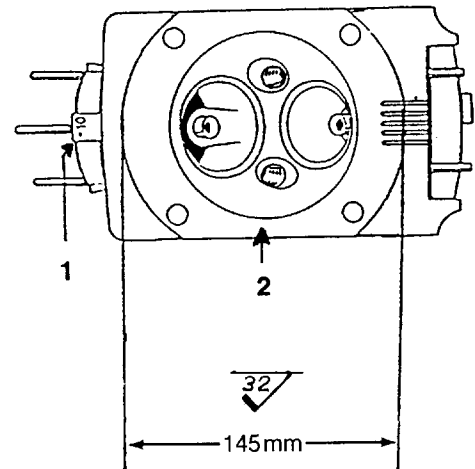

Figure 4
5. Machine $0.10 \pm 0.02\text{mm}$ from inner surface (arrow 2 in Figure 4). The diameter of the machined surface must be 145mm (Figure 4). A surface quality standard of 32 micro-inches must be maintained. Machining should be done with a cutting tool at right angle to the work. The cylinder head surface may only be machined a maximum of 0.20mm.
6. Mark cylinder head with -10 or -20 appropriately on intake flange (arrow in Figure 4).